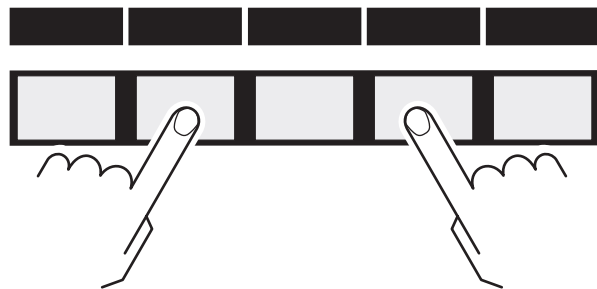

Fig. 7-3 Start the IM 540 with enabled test mode
- 3 Keep the second and the fourth button pressed (Fig. 7-3, 58) and switch the IM 540 on